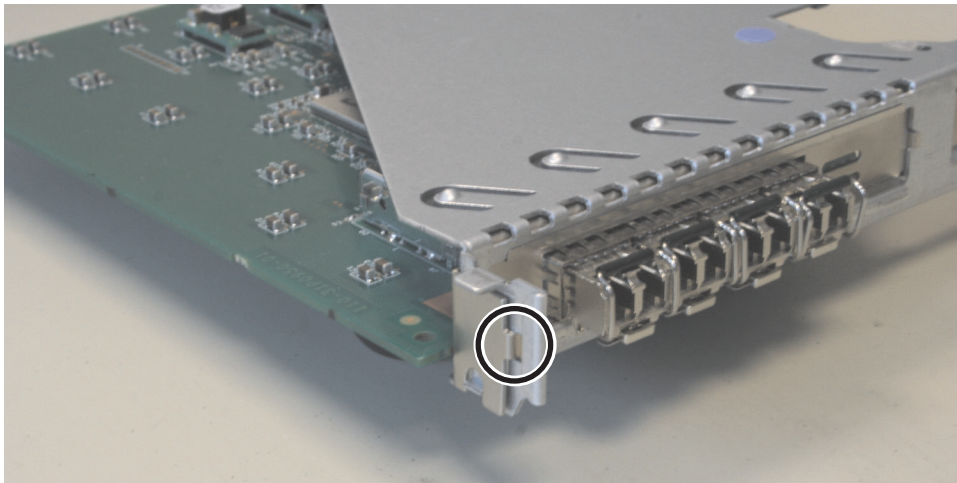

Figure 172. SAN Volume Controller 2145-8A4 riser-card assembly
5. Grasp the riser-card assembly at the front and rear edges and lift to remove it from the node. Place the riser-card assembly shown in Figure 172 on a flat, static-protective surface.